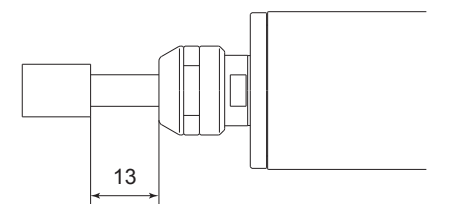

Fig. 18
- ① The proper surface speed for general grindstones is 10 - 30m / s.
- ② Do not exceed 13mm of overhang for mounted grindstones as shown in Fig. 18. If the overhang must exceed 13mm, reduce the brushless / air motor, speed in accordance with Table. 4.
- ③ Dress the grindstone prior to use.
- ④ Do not use cutting tools with bent or broken shanks, cracks or excessive run-out.
- ⑤ For grinding, the maximum depth of cut should not exceed 0.01mm radially or axially. Reciprocate the tool several times after each pass to eliminate tool pressure.
- ⑥ Always operate cutting tools within the allowable recommended speed of the cutting tools. Use of a cutting tool outside of the allowable speed of the cutting tools could cause damage to the spindle and injury to the operator.
- ⑦ Keep the cutting tool shank and collet clean. If contaminants are left in the collet or collet nut, excessive run-out will cause damage to the cutting tool and or spindle.
- ⑧ Do not strike or disassemble the Spindle.
- ⑨ Please set the cutting tools to minimize the overhang amount. 13mm is the maximum amount of overhang to maintain high accuracy and safety.